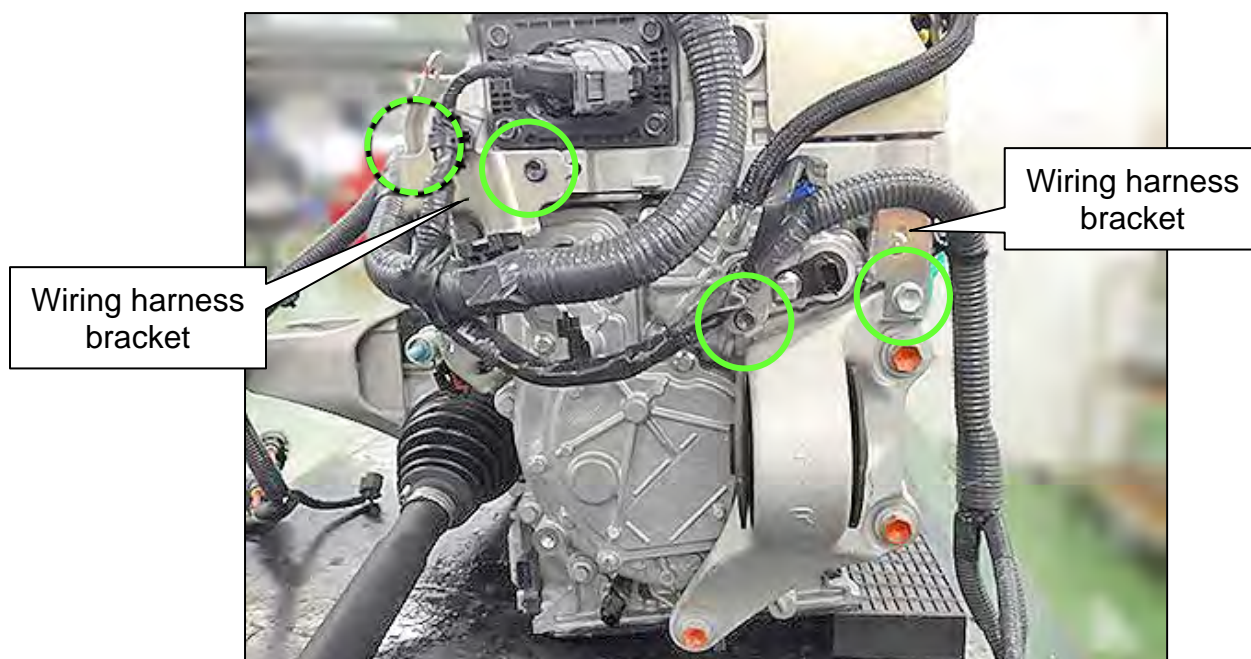

Figure 86
108. Remove the two (2) wiring harness brackets shown in Figure 86.
- Two (2) bolts for each bracket (one hidden in Figure 86).
109. Remove the associated harness shown in Figure 86.